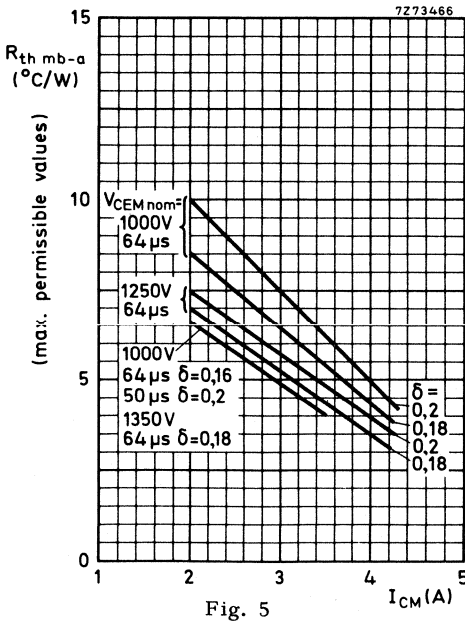

Fig. 5
- Fig. 5. Maximum permissible thermal resistance of the heatsink for thermal stability of the output transistor (Design Centre Rating System).